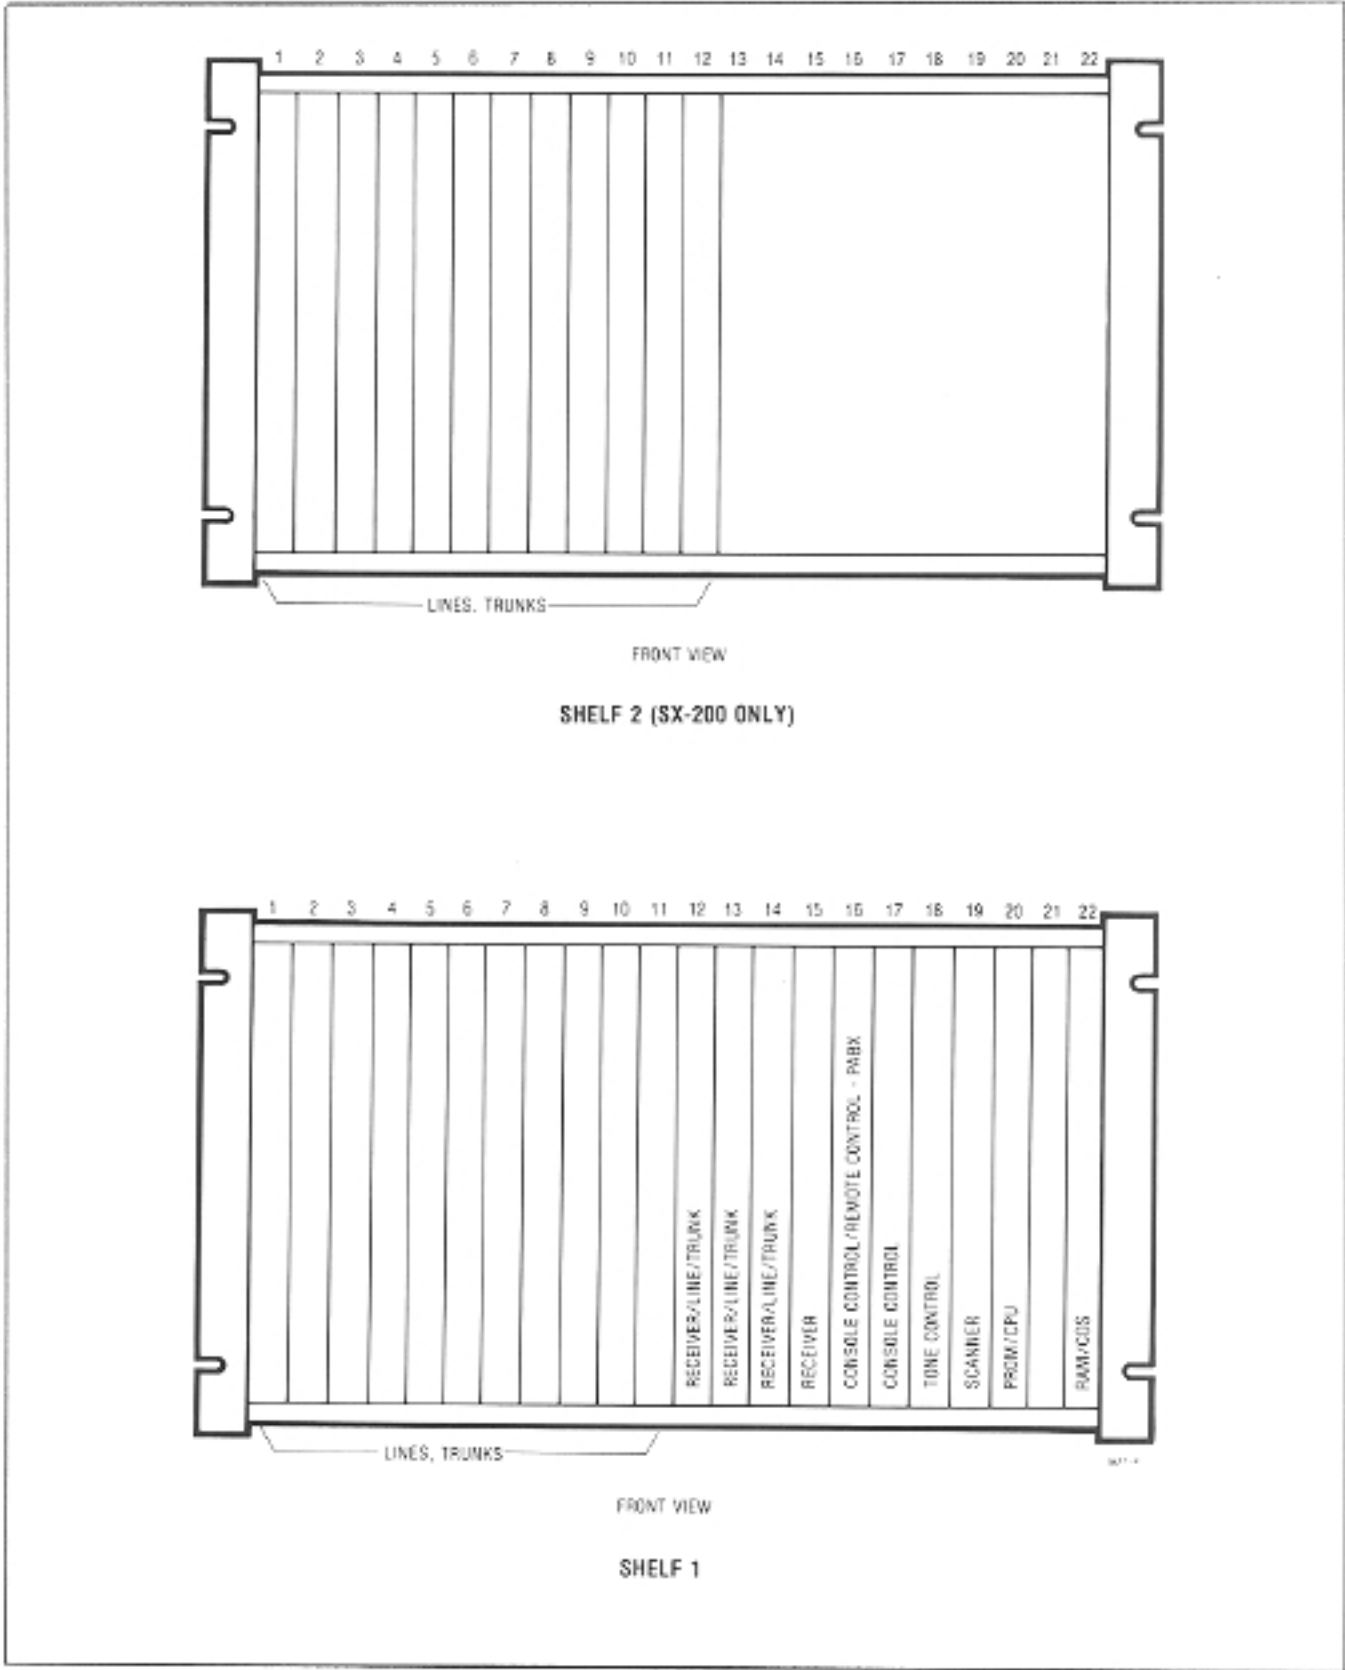

Fig. 4-2 Shelf Card Positions
4.02 Equipment Shelf 1 contains the four common control cards plus the required number of line trunk, console control and receiver cards. The common control cards are color coded and held in card positions 18 through 22. The console control cards occupy positions 16 and 17, and the first receiver card position 15. These card positions are fixed for all systems. Card positions 1 through 14 may be equipped with line, trunk or receiver cards as shown in Fig. 4-2.